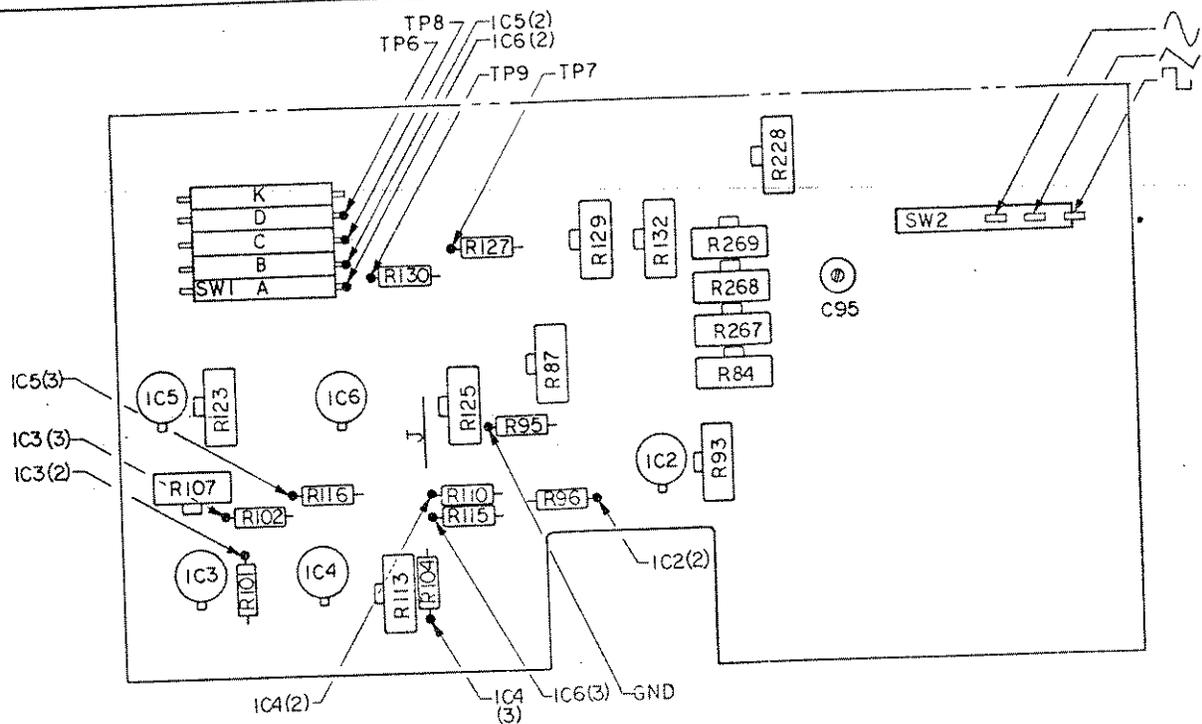

Figure 4-4 - Main Board Test & Calibration Points
- Connect ac power to the instrument, and connect the voltmeter leads to TP1 (common) and TP2 (+15 V) on the Power Supply Board. See Figure 4-4.
- Set the voltage between IC3(2), and IC3(3) to 0 Vdc ±100 μV, using R107. See Figure 4-4.
- Set the voltage between IC4(2), and IC4(3) to 0 Vdc ±100 μV, using R113.
- Set the voltage between IC5(2), and IC5(3) to 0 Vdc ±100 μV, using R123.
- Set the voltage between IC6(2), and IC6(3) to 0 Vdc ±100 μV, using R125.
13. With FREQ DIAL still fully clockwise, set the voltage between IC2(2) and ground (at R95) to 0 Vdc  $\pm 100 \mu\text{V}$ , using R93.
17. Connect the oscilloscope probe (a type W or 1A5 plug-in module should be used with the scope) to  position of the WAVEFORM selector switch, SW2, see Figure 4-4.
20. Set 30 V P-P MAX control to 3/4ths of full CW, and connect oscilloscope probe to  position of the WAVEFORM selector switch (SW2), see Figure 4-4.